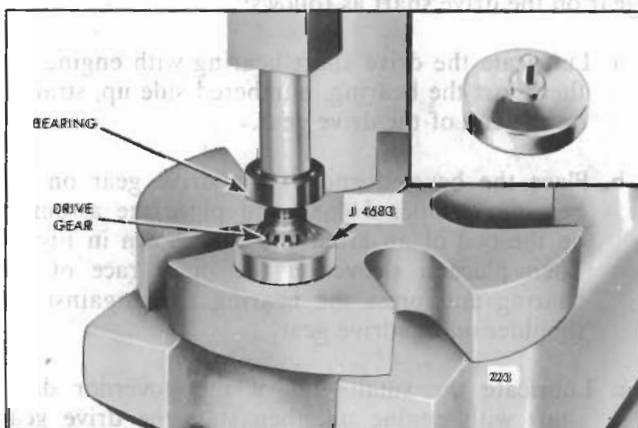

Fig. 7 - Installing Bearing on Drive Gear
- b. Place the beveled end of the drive gear on the bearing installer J 4683 and place the assembly on the bed of an arbor press as shown in Fig. 7. Then place a sleeve on the inner race of the bearing and press the bearing tight against the shoulder on the drive gear.